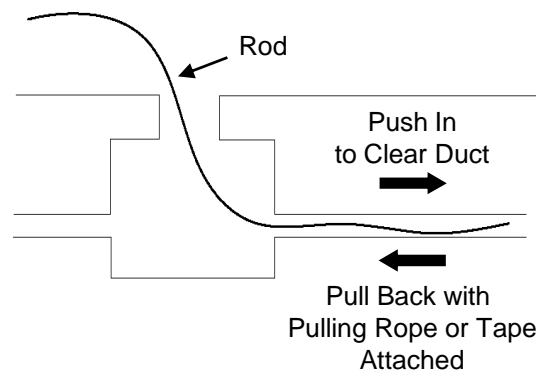

Figure 13
15.1.2 Attach pulling rope to front end of rod and pull rod and rope back through and out of duct entrance. **See Fig. 13.**